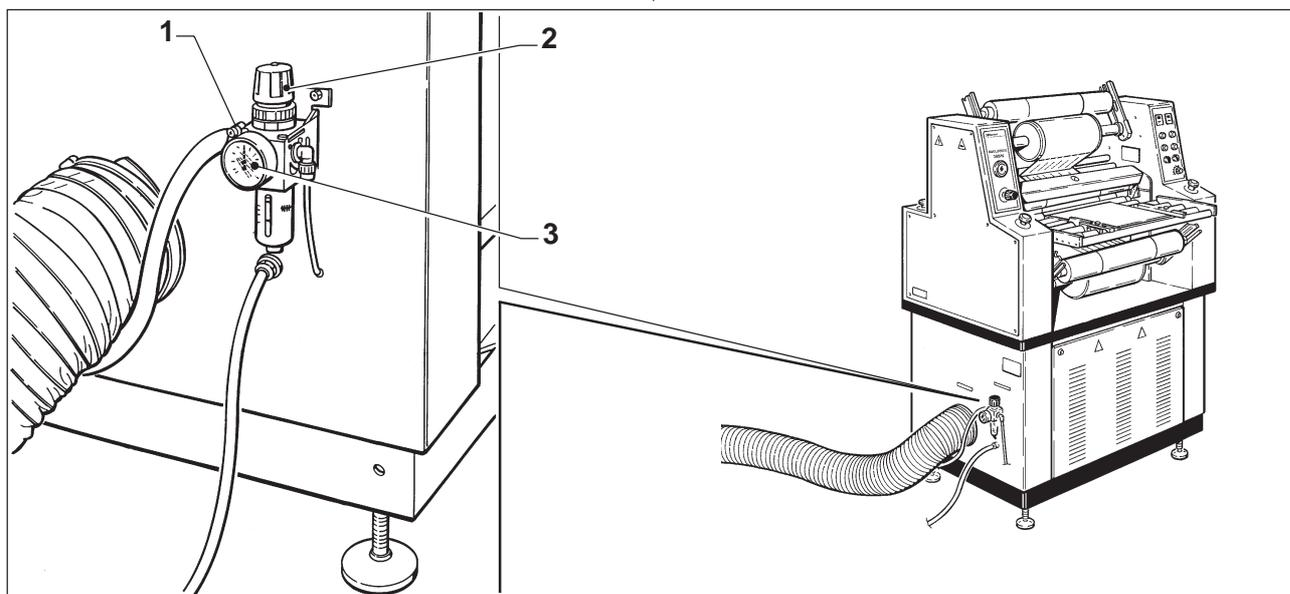

Fig. 4 - PNEUMATIC CONNECTION
1.5.D - Pneumatic connection (Fig. 4)